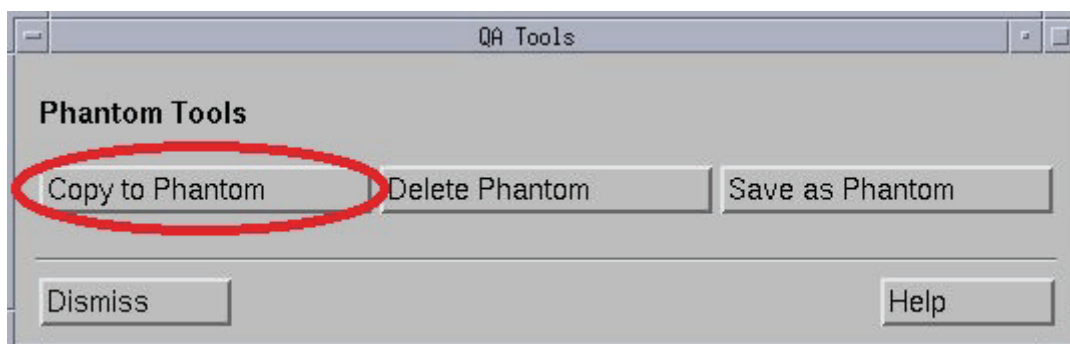

Fig. 4.3 Copying to Phantom the plan to be verified
3. Click the **Copy to Phantom** button (Figure 4.3). The **CT Patient/Directory List** window appears.